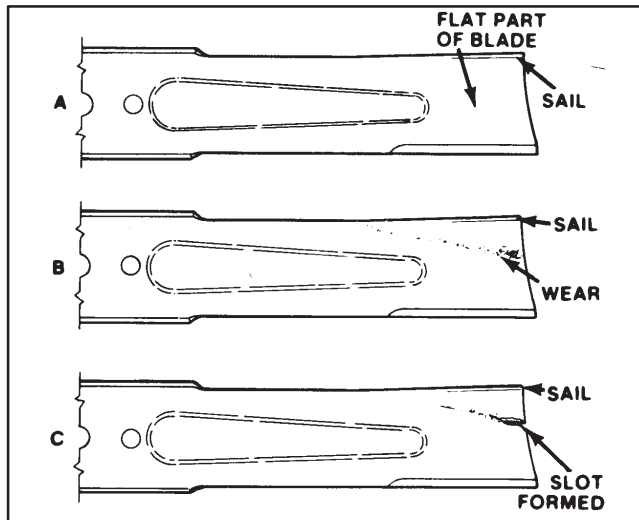

Figure 27
INSPECTING AND SHARPENING BLADE (Fig. 27 – 28)
4. Examine cutting ends of the blade carefully, especially where the flat and curved parts of the blade meet (Fig. 27–A). Since sand and abrasive material can wear away the metal that connects the flat and curved parts of the blade, check the blade before using the machine. If wear is noticed (Fig. 27–B), replace the blade: refer to Removing Cutter Blade.
If blade is allowed to wear, a slot will form between the sail and flat part of the blade (Fig. 27–C). Eventually a piece of the blade may break off and be thrown from under the housing, possibly resulting in serious injury to yourself or bystander.